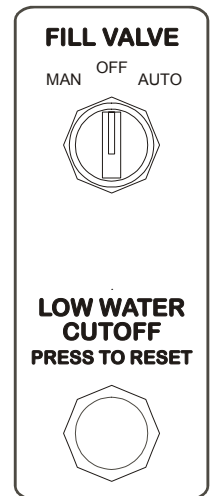

Figure 2
- 3-position Fill Valve Selector Switch (HOA) that allows the Fill Valve to be operated automatically (AUTO), turned on (MAN) to manually fill the fountain (ignoring the probes), or switched off (OFF) during maintenance. (Figure 2)
- Red illuminated Reset pushbutton that indicates an extremely low-level water condition – Low Level Cutoff (LLCO). When pressed, the pushbutton resets the LLCO condition and restarts the pump and lights. (Figure 2)